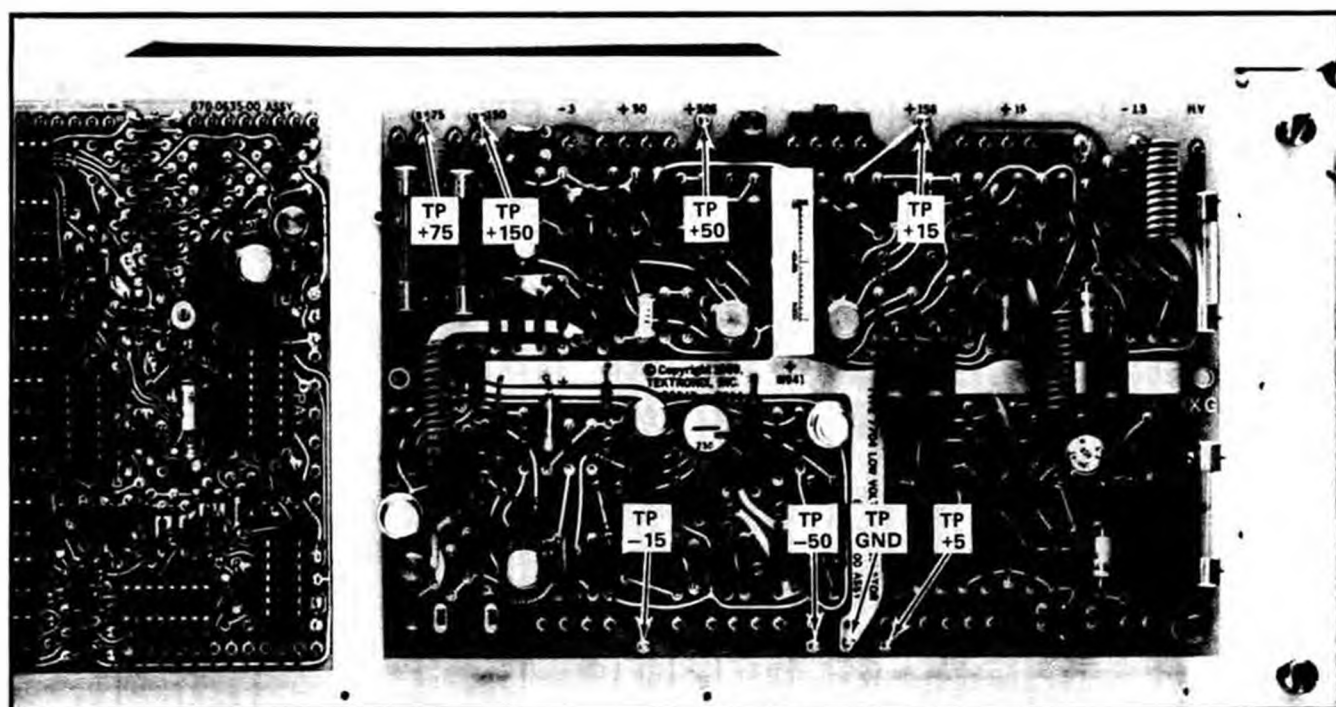

Fig. 4-4. Location of power-supply test points on Low-Voltage Regulator board.
Incorrect operation of all circuits often indicates trouble in the power supply. Check first for correct voltage of the individual supplies. However, a defective component elsewhere in the instrument can appear as a power-supply trouble and may also affect the operation of other circuits. Table 4-3 lists the tolerances of the power supplies in this instrument. These voltages are measured between the power-supply test points (on Low-Voltage Regulator board) to the ground test point on this board. See Fig. 4-4 for power supply test point location. If a power-supply voltage is within the listed tolerance, the supply can be assumed to be working correctly. If outside the tolerance, the supply may be misadjusted or operating incorrectly. Use the procedure given in the Calibration section to adjust the power supplies.
- 2.3 Set the POWER switch to ON. Then, measure the output of each supply between the designated test point (see Fig. 4-4) and the ground test point with the voltmeter. Tolerance for each supply is given in Table 4-3.